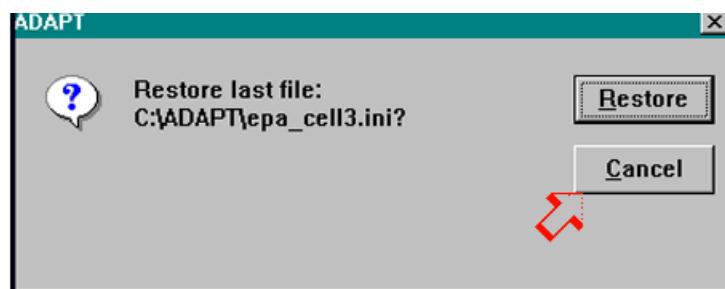

Figure 2
- 104 When the "ADAPT" dialog appears, click on the "Cancel" button. See the arrow in Figure 2.